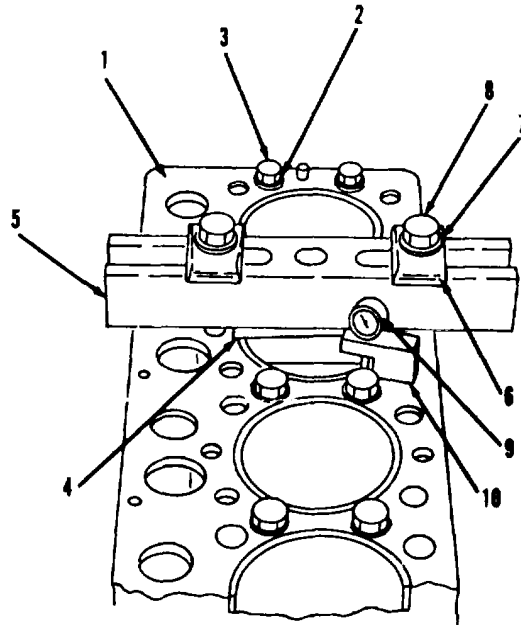

Figure 3-34.
2. Install spacer plate (1), 20 washers (2) and ten bolts (3, Figure 3-34) in cylinder block. Tighten ten bolts (3) evenly in four steps of 10 ft-lb, 25 ft-lb, 50 ft-lb and 70 ft-lb torque. Use two of 20 washers (2) with each of ten bolts (3).
3. Install adapter plate (4), crossbar (5), two plates (6), washers (7) and bolts (8). Tighten two bolts (8) evenly in four steps of 5 ft-lb, 15 ft-lb, 25 ft-lb and 50 ft-lb torque. Measurement from bottom of crossbar (5) to spacer plate (1) must be the same on both sides of cylinder liner.
4. Assemble contact point, dial indicator (9) and gage body (10).
5. Adjust dial indicator (9) to zero.
6. Measure cylinder liner projection as close as possible to four corners of adapter plate (4) on cylinder liner. Liner projection must be 0.0012 to 0.0069 inch. Difference between four measurements on cylinder liner must not be more than 0.002 inch. Difference in average cylinder liner projection for liners next to each other must not be more than 0.002 inch. Maximum difference in average projection for all cylinder liners must not be more than 0.004 inch.